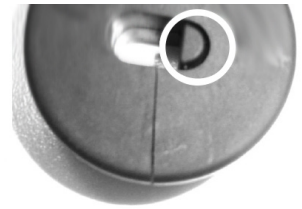

Figure 1.2
3. The supplied grommet in Fig 1.2 is "split" to make the installation easier once the wire is in the bag. The white circle in the picture shows a "plug" that can easily be removed. If the only wire you have going into your saddlebag is the speaker wire, leave the plug in place. If you have a second wire for such things as lighting etc., removing the plug from the grommet will allow the second wire to also pass through without having to drill additional holes in your saddlebag.